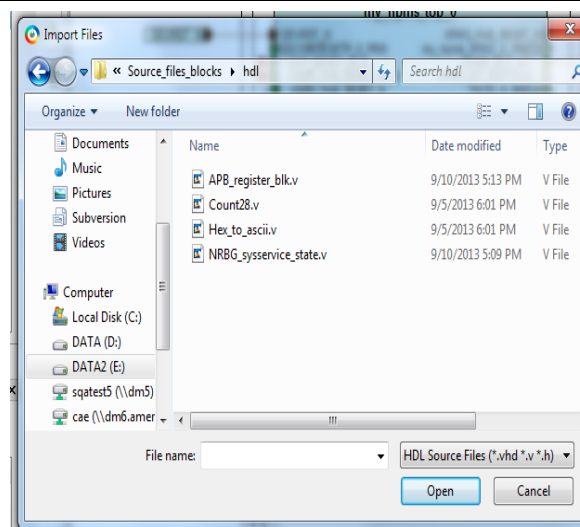

Figure 15 Import Files Dialog Box
20. Browse to **C:\Coresysvc_lab\Source_files_blocks\hdl** folder and import all four source files: **APB_register_blk.v**, **Count28.v**, **Hex_to_ascii.v**, and **NRBG_syservice_state.v** files, as shown in Figure 15.